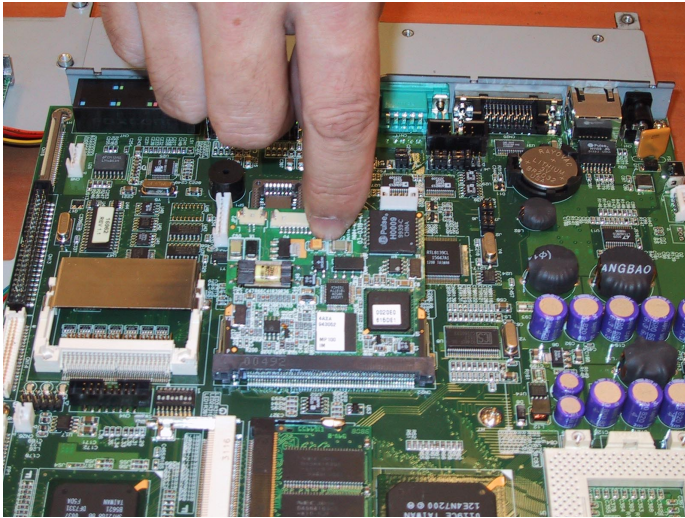

Figure 3-11: Install the mini PCI card
2. Slip the mini PCI bus card into the socket at a 45-degree angle as shown in Figure 3-11.